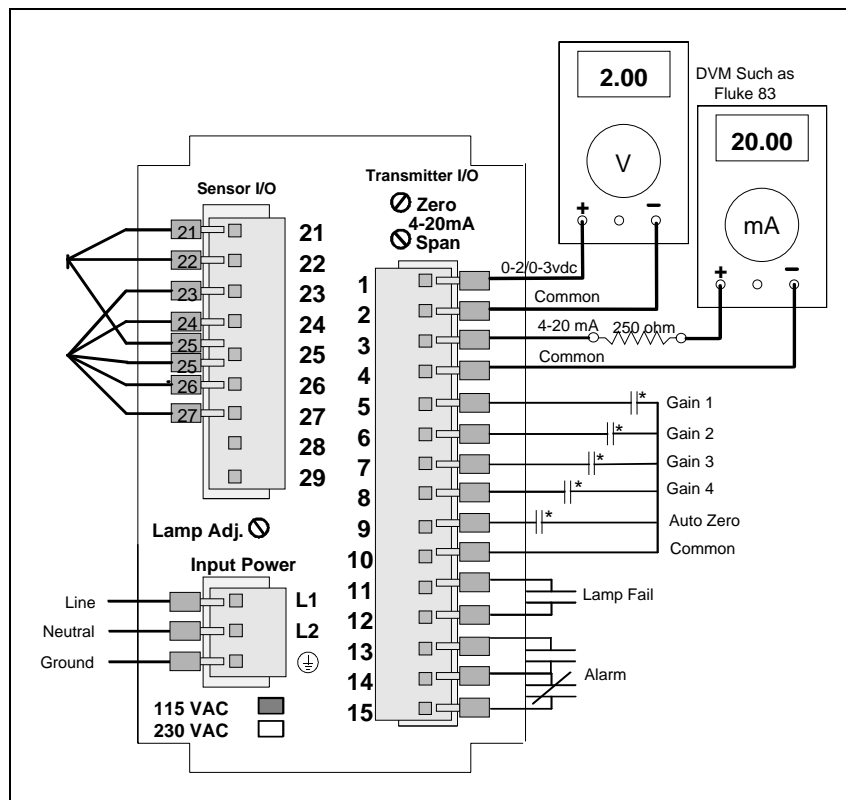

Figure 15 - Start-Up/Calibration Test Set-up
1. Connect the transmitter and sensor as shown in figure 15 (earlier in this manual).